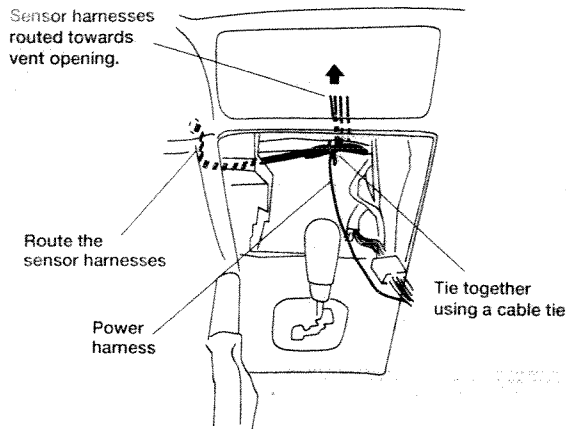

Figure 6-2
3. Tie the sensor harnesses previously routed from the engine compartment together with the vehicle wiring using a cable tie (1 location). Run these harnesses through the mounting hole of the air vent grille together with the power harness installed in Step 2. Gather all loose harnesses nearby and bind them together. (Figure 6-2)